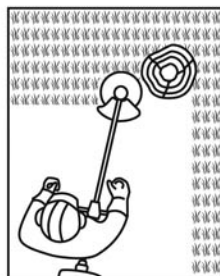

Fig. 29
- > Pay particular attention when working close to hedges and trees: the blade can damage soft bark and fenceposts (Fig. 29).